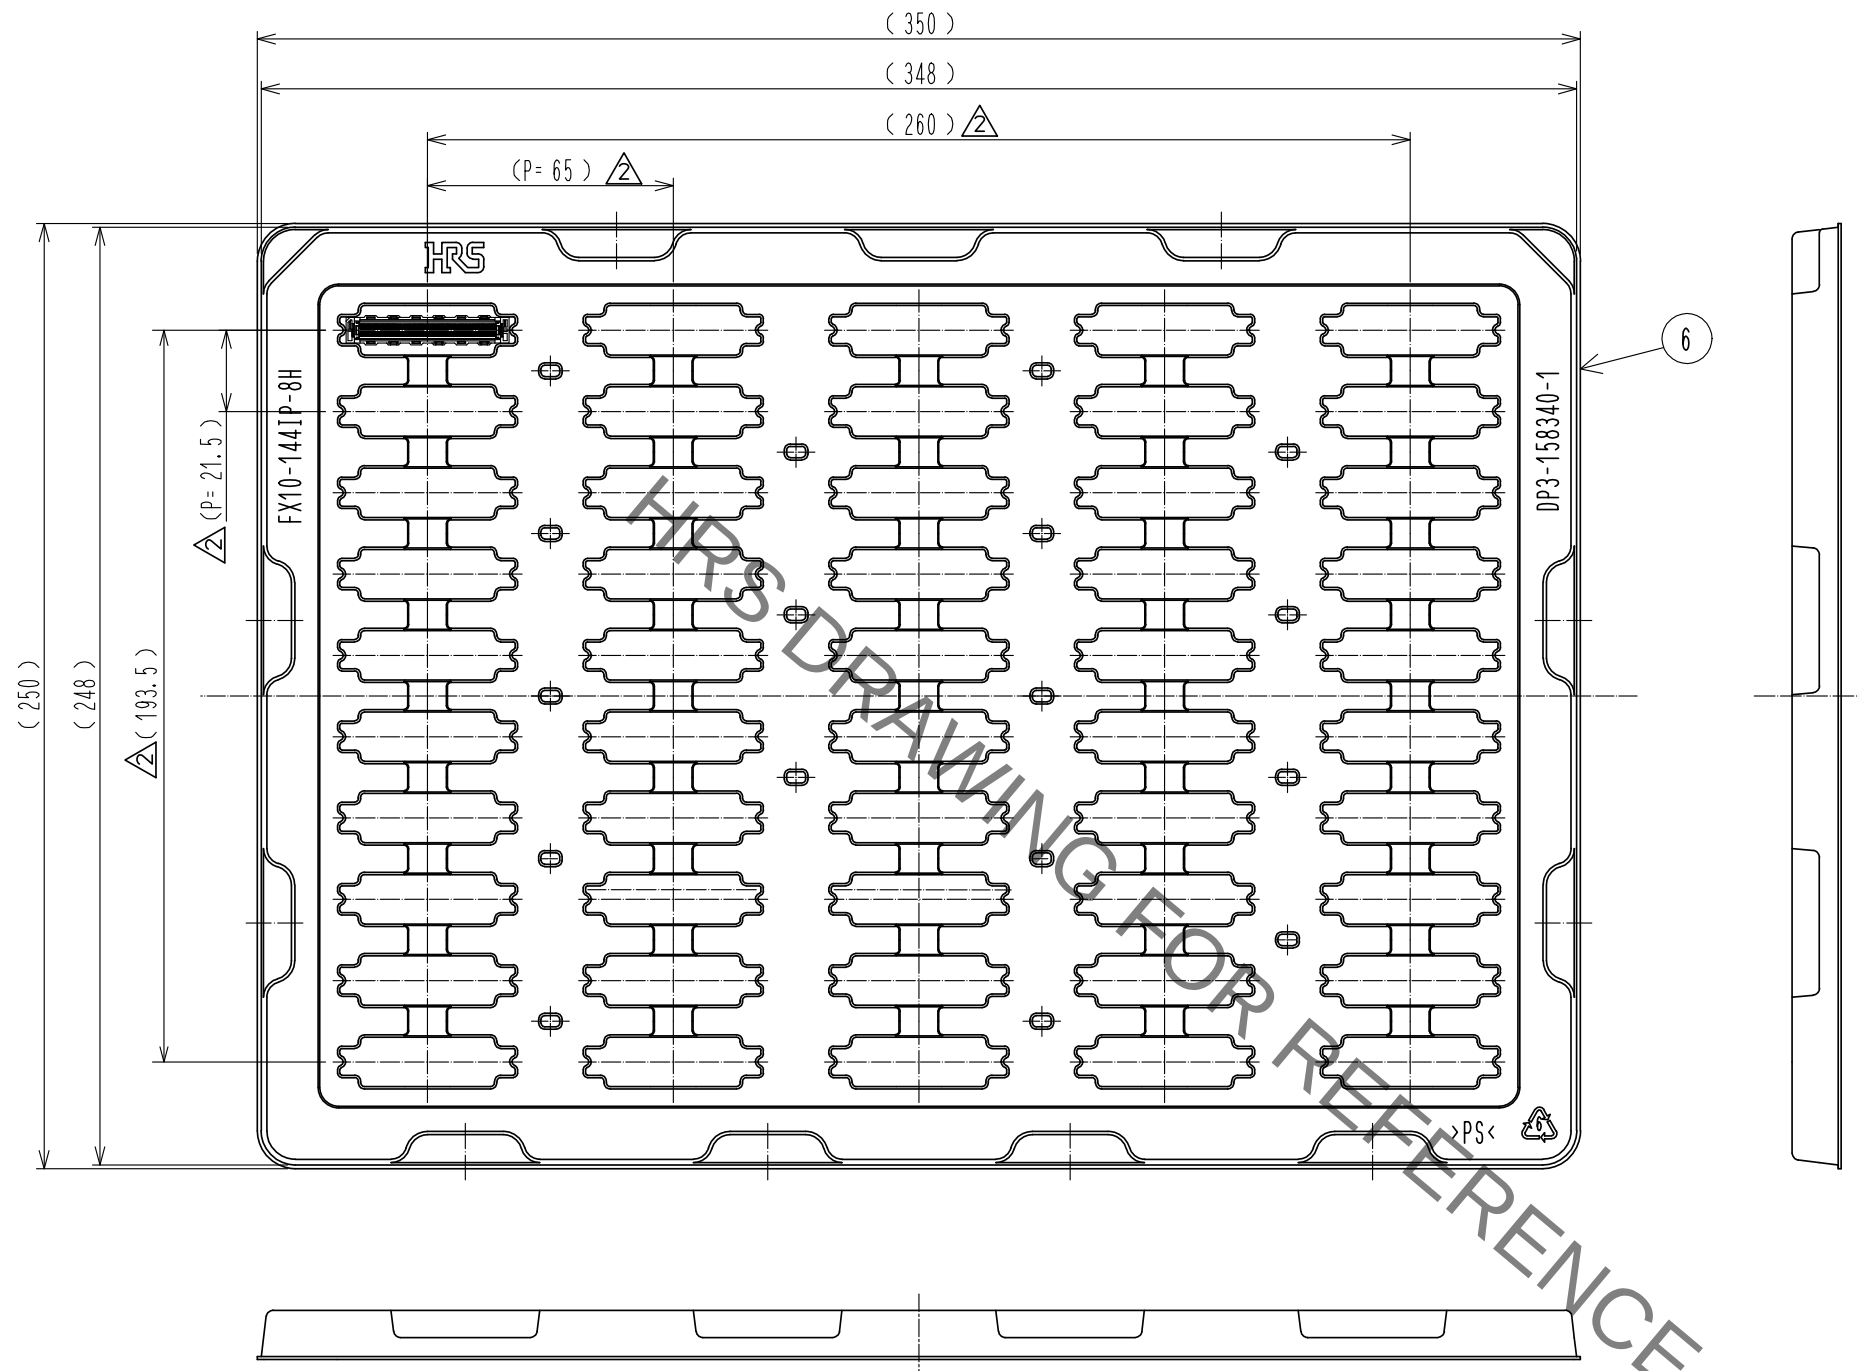

Fig.3 Drawing for packing (1:2) 6
- ⑤ Lot No. shall be marked on the indicated position.
- ⑥ 50pcs of this product are packed in soft tray. See Fig.3 for details.